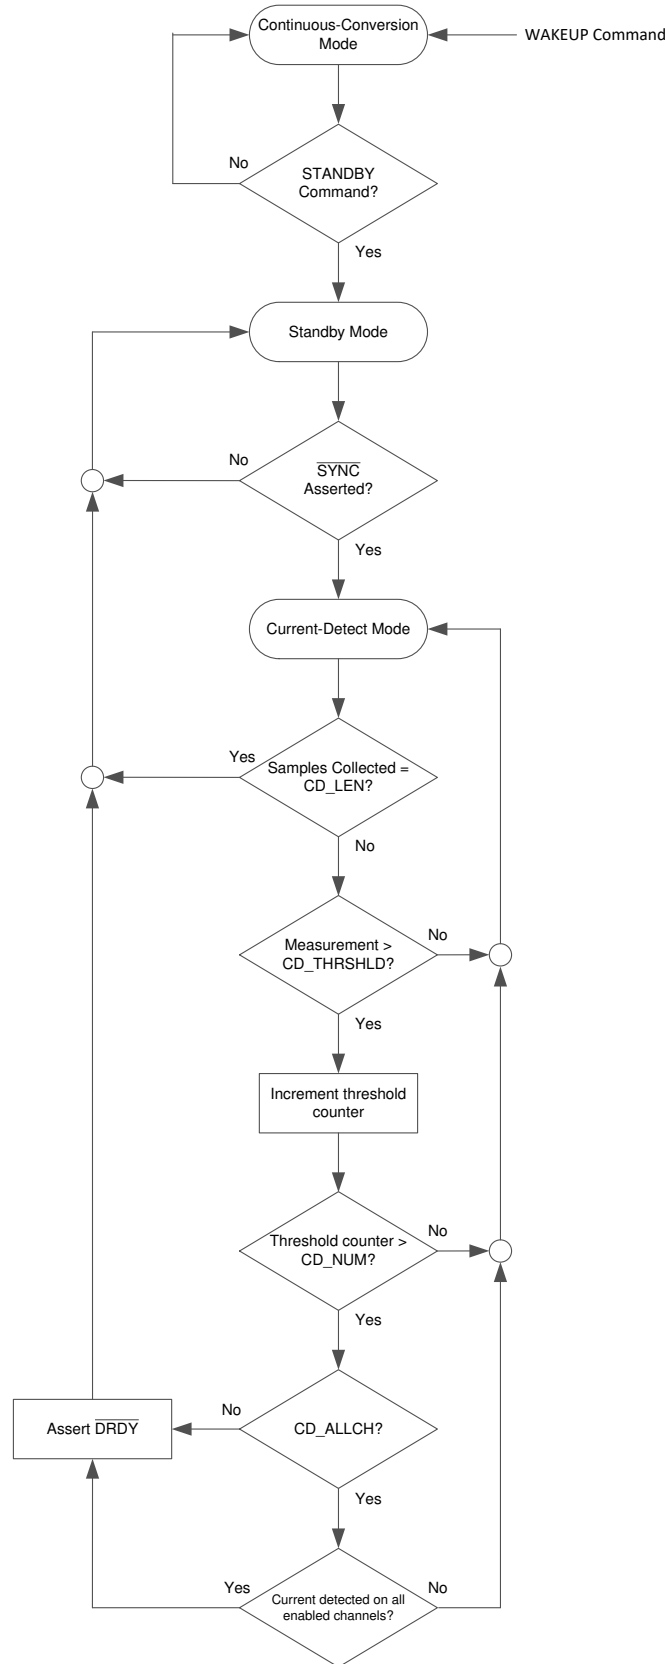

图 8-17. Current-Detect Mode Flow Chart
**图 8-17** illustrates a flow chart depicting the current-detection process on the ADS131M06-Q1.